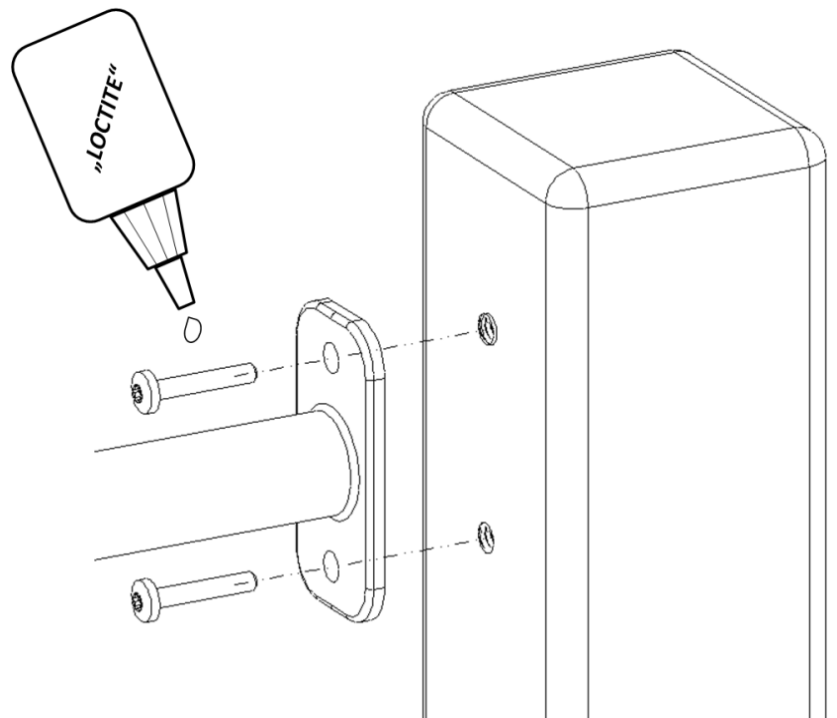

Figure 5 - Attaching the modul components to the columns
7. After positioning all columns, the module components (no. 21-50 in the drawings) can be attached to them. Put the bores of the tabs in the module components on the suitable bores of the columns and screw those with the countersunk screws using a suitable universal screw lock (see Fig. 5).